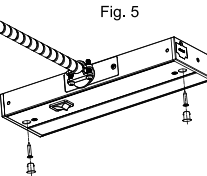

Fig. 5
4. A) Secure fixture to mounting surface using flat head wood screws (supplied). Be careful not to drive screws all the way through the cabinet bottom. Use shorter screws if necessary. Once the fixture is secure to surface insert the screws (Fig.5).